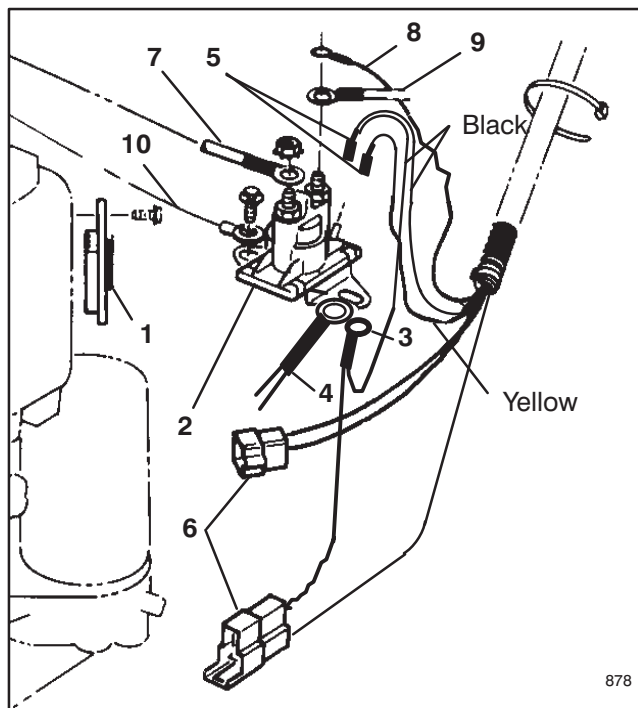

Figure 4
9. Secure wire harness to throttle cable and fuel line with (2) cable ties.
10. Remove (2) screws securing rectifier to left rear corner of engine and remove rectifier. Install new rectifier with screws previously removed (Fig. 4).
11. With spade terminals positioned to the rear, mount the right side of solenoid and the small ring terminal end of 14" black cable, from starter motor, to frame with a self tapping screw. Mount the left side of solenoid and the small ring terminal end of 22" black, negative (-) battery cable and small, two wire, ring terminal from clutch connector, to frame with a self tapping screw (Fig. 4).
12. Press spade terminals of yellow and double black wires from harness onto terminals at rear of solenoid (Fig. 4).
13. Secure male and female clutch and engine connectors (Fig. 4).
14. Secure larger ring terminal end of 12" red starter motor cable to front terminal of starter solenoid with locknut and opposite end of wire to bottom of starter motor (Fig. 4).
15. Secure ring terminal wire (gray) from harness and 21" red, positive (+) battery cable to top, rear terminal of starter solenoid with locknut (Fig. 4).